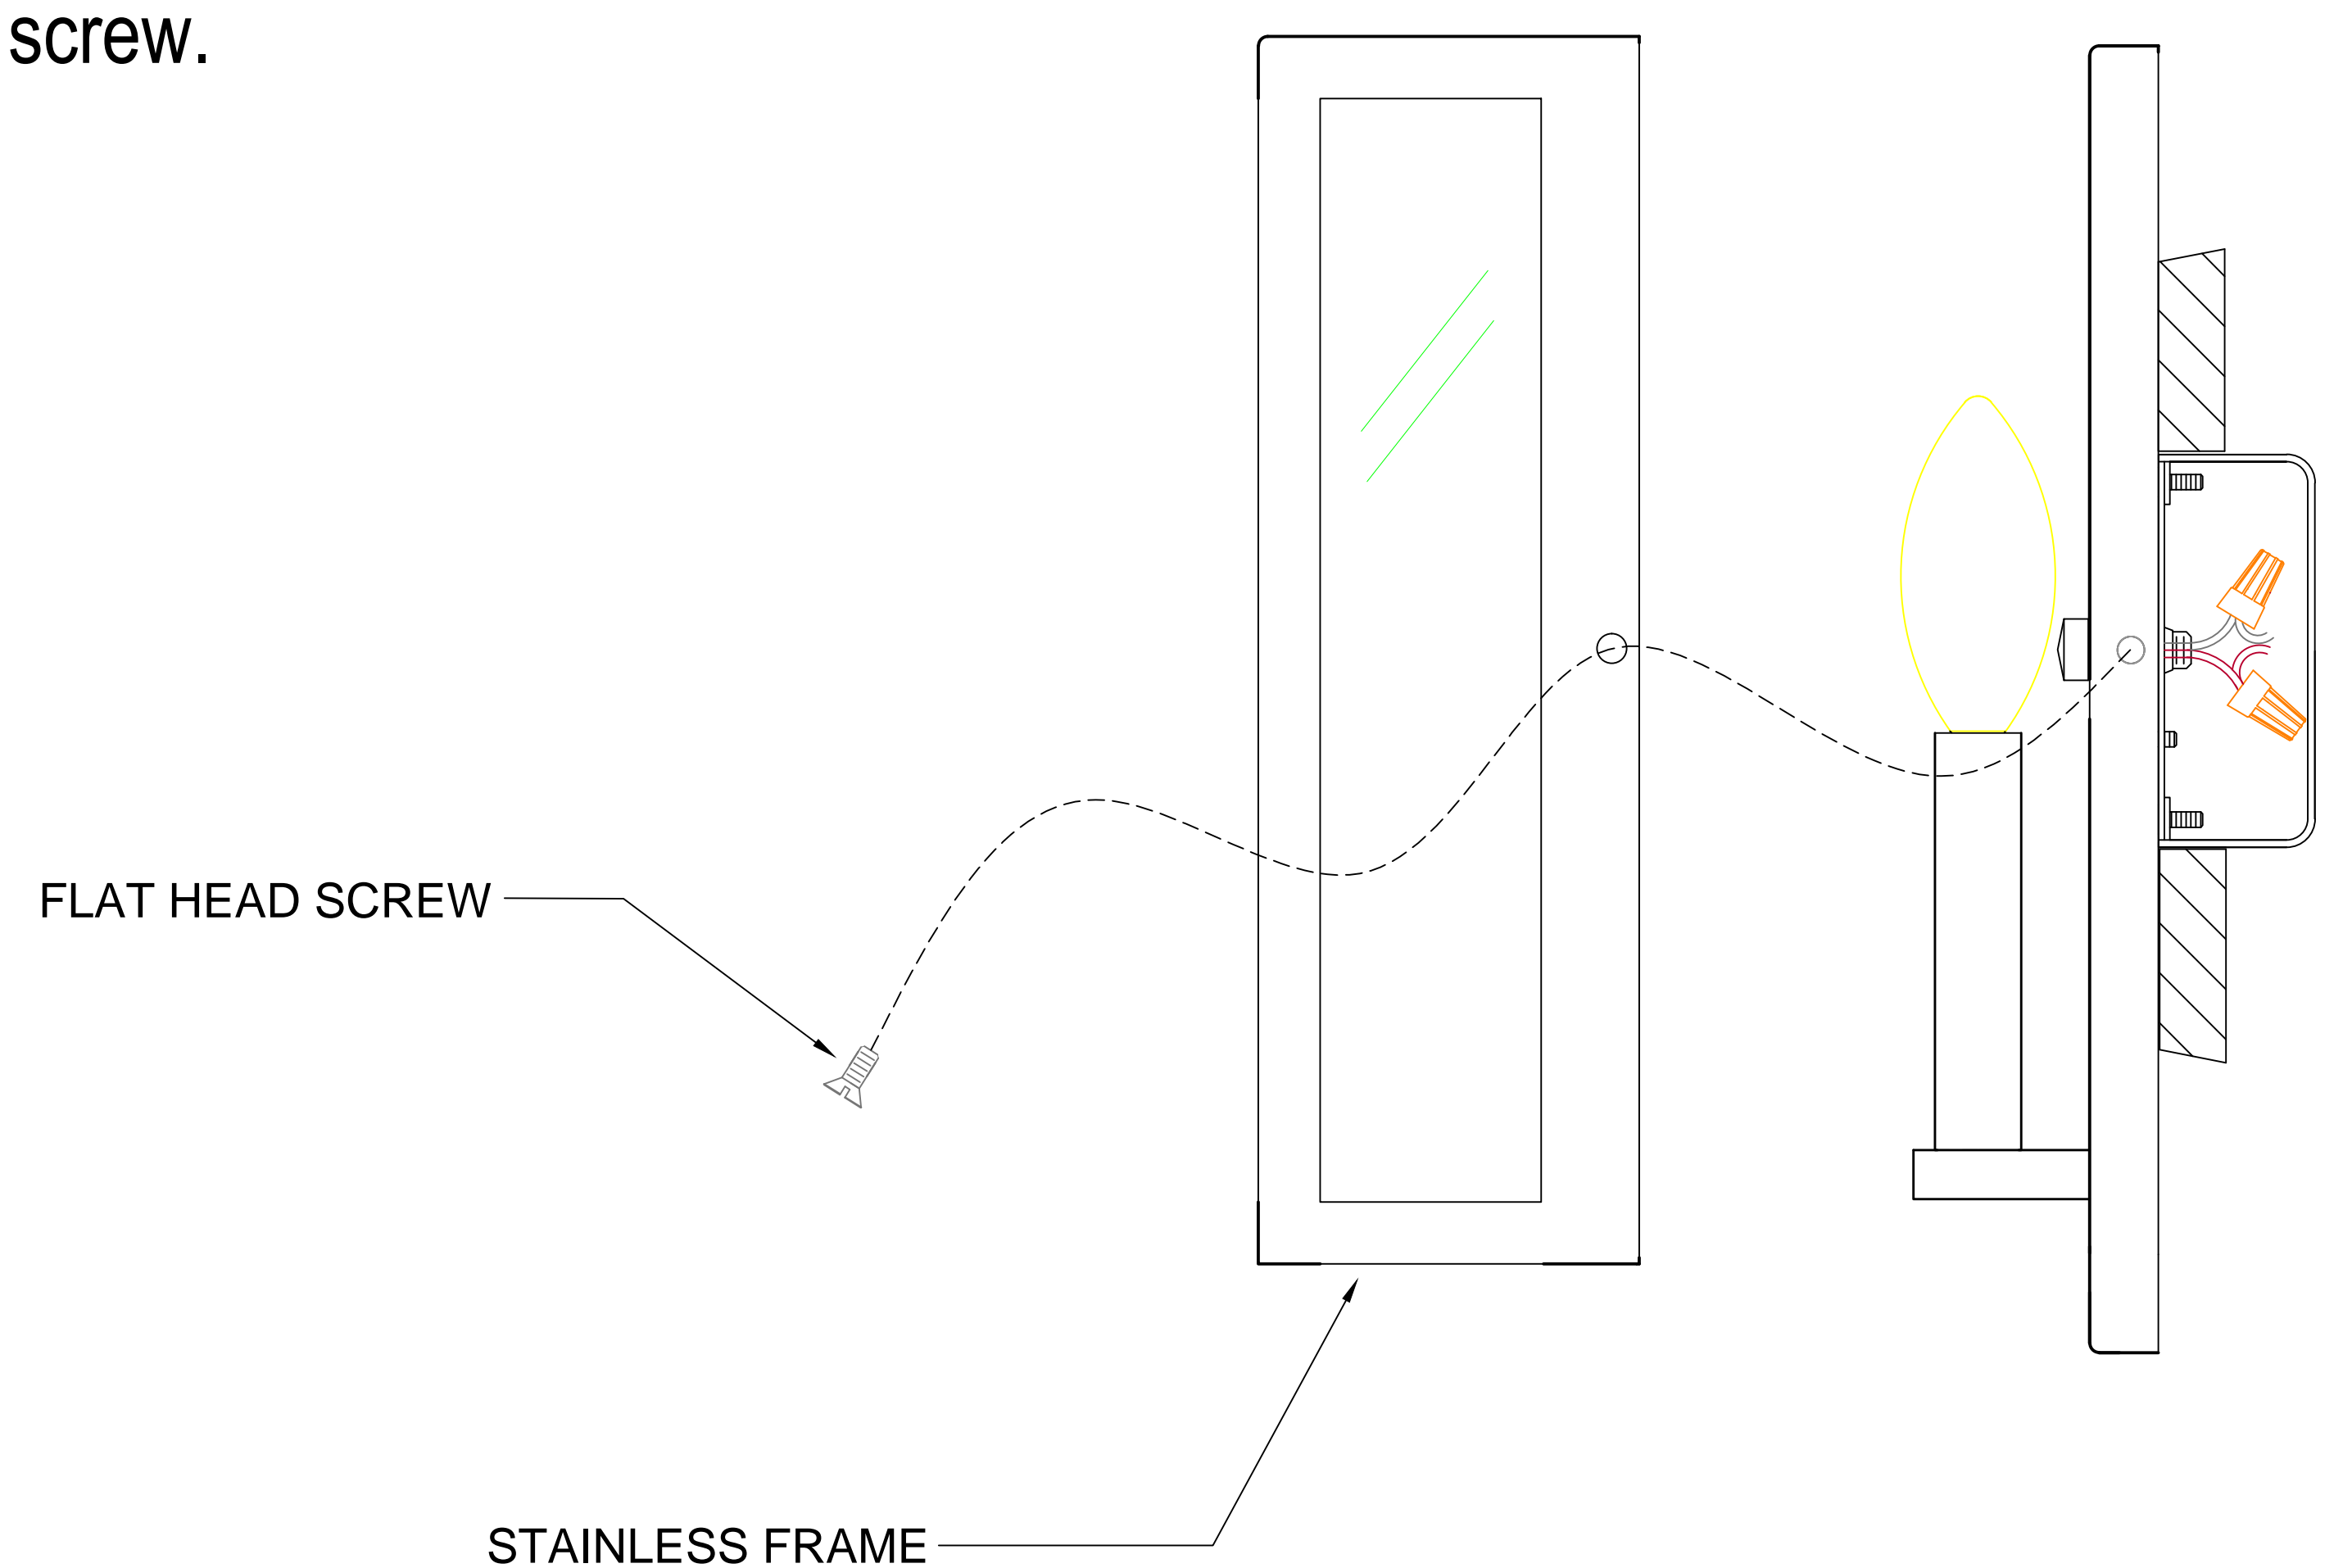

FIGURE-05
8. Attach the frame unto the backplate then secure it by the flat head screw. (See Figure-05)